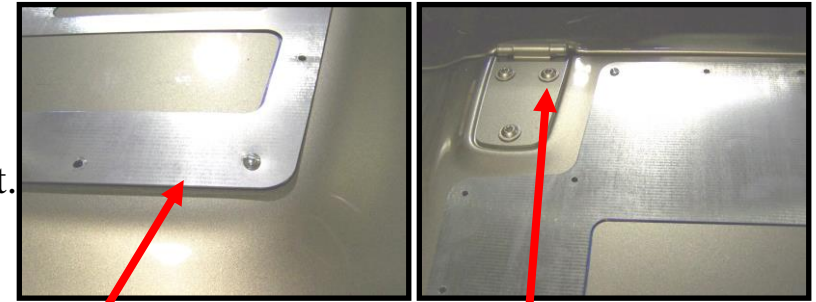

Figure 2
Step 6 – Using 1/4” Bit, drill one hole through the template and hood at either corner, as shown in (Figure 2). Install and tighten the supplied 10-32 screw and nut. Then drill a second hole in the opposite corner of Template and install and tighten supplied 10-32 screw and nut. This will ensure template stays in place while drilling and cutting.